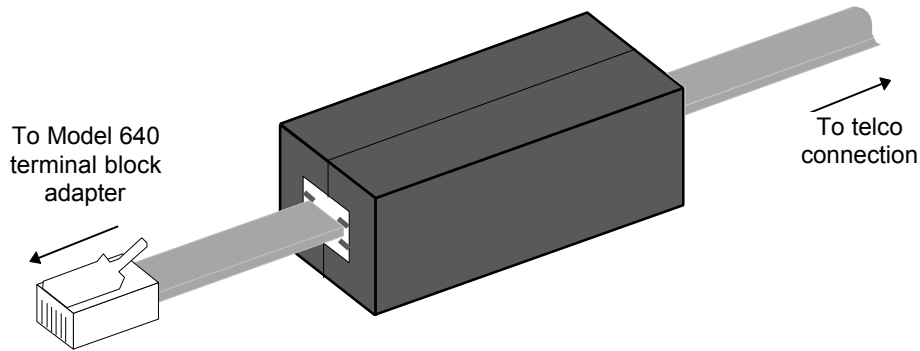

Figure 21. Clamp-On Ferrite (Part No. 305-2025) Installation
- ❑ 3. Connect a clamp-on ferrite (Part No. 305-2025) to the Model 640 end of each telephone cord as shown in Figure 21. Four ferrites are supplied with the installation interface assembly option for suppressing RF noise interference.